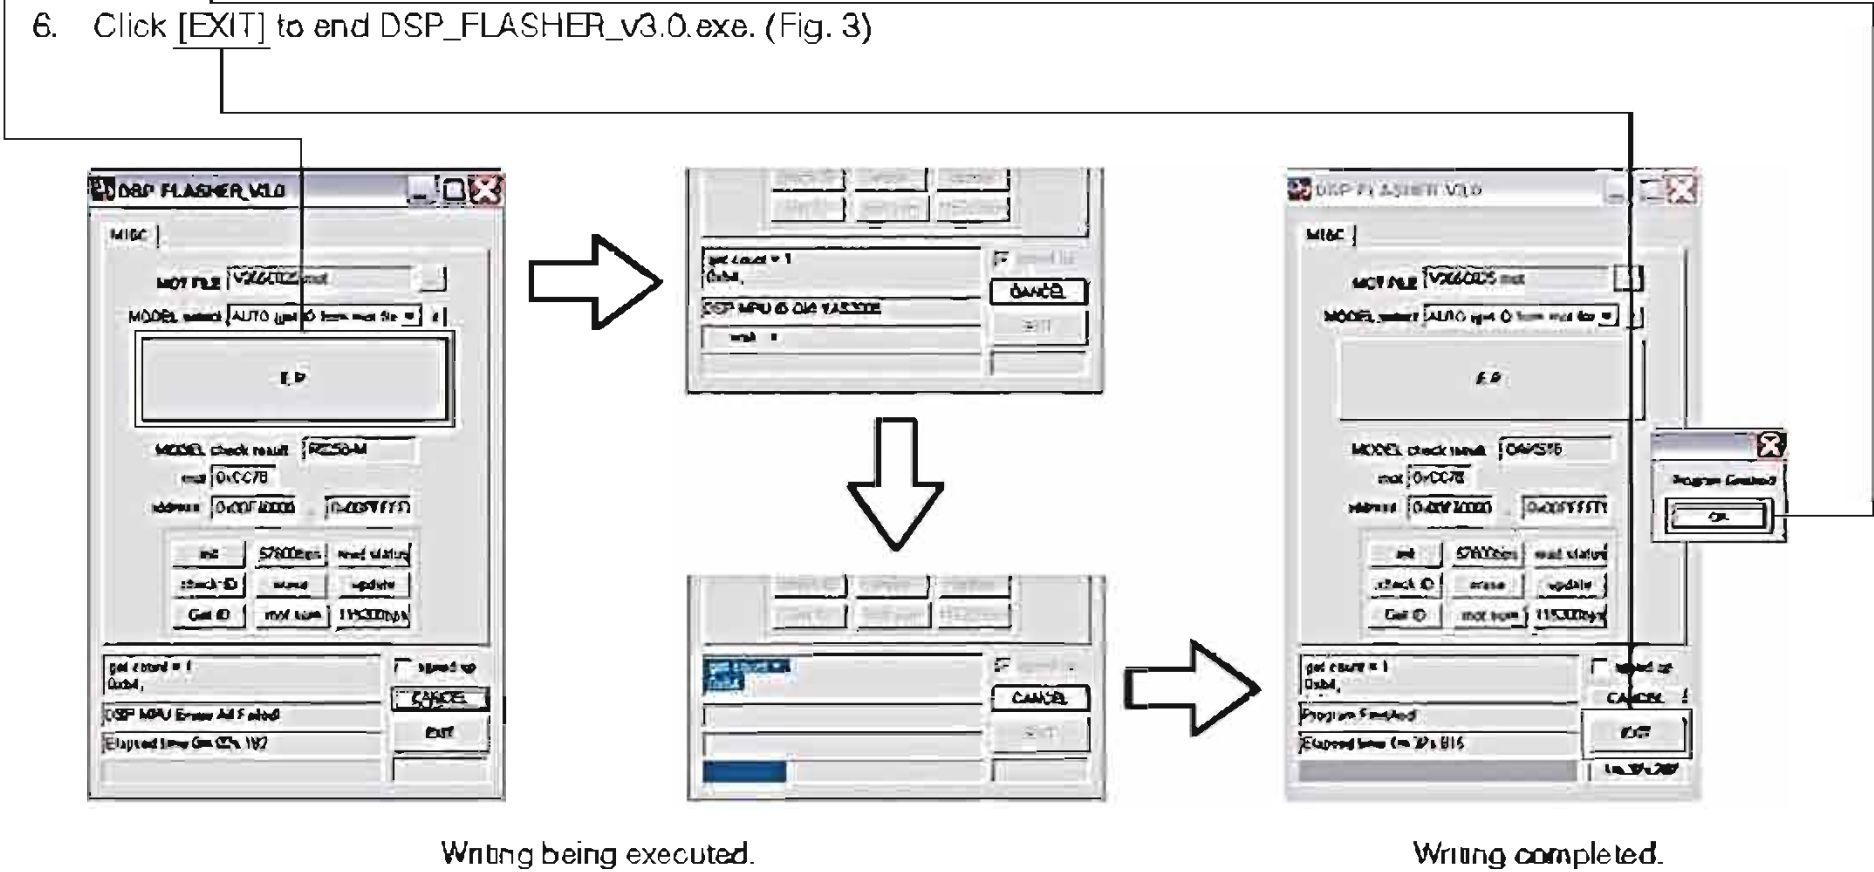

Fig. 3
- 4. Click [E.P.] to start writing. (Fig. 3)
- 5. When writing of the firmware is completed, "Program Finished!" is displayed. (Fig. 3)
Click [OK]. (Fig. 3)
- 6. Click [EXIT] to end DSP_FLASHER_v3.0.exe. (Fig. 3)
6. When writing of the firmware is completed, "Vx61 DSP Flash finished!" is displayed. (Fig. 3)